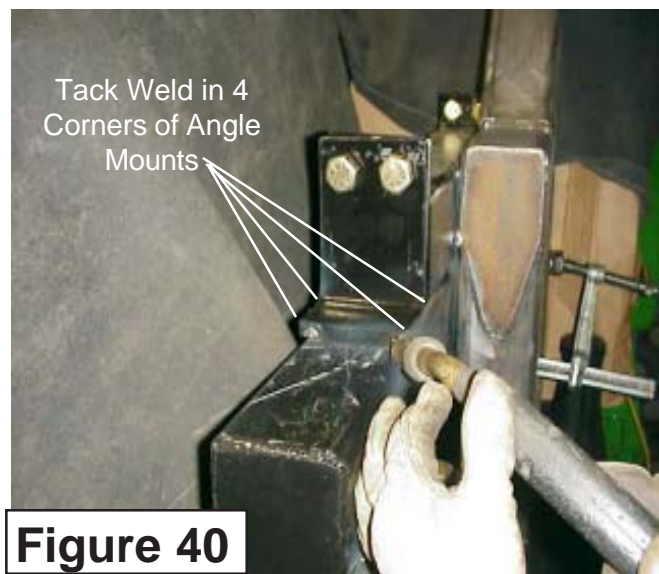

Figure 40
6. Tack Weld Front and Rear Angle Mounts. The Angle Mounts should be tack Welded to the Frame Rails in 4 places each. This works best by weld a tack Weld in each corner of Angle Mount. (See **Figure 40 & 41**). All 4 of the Angle Mounts must be Tack Welded to frame rail now.